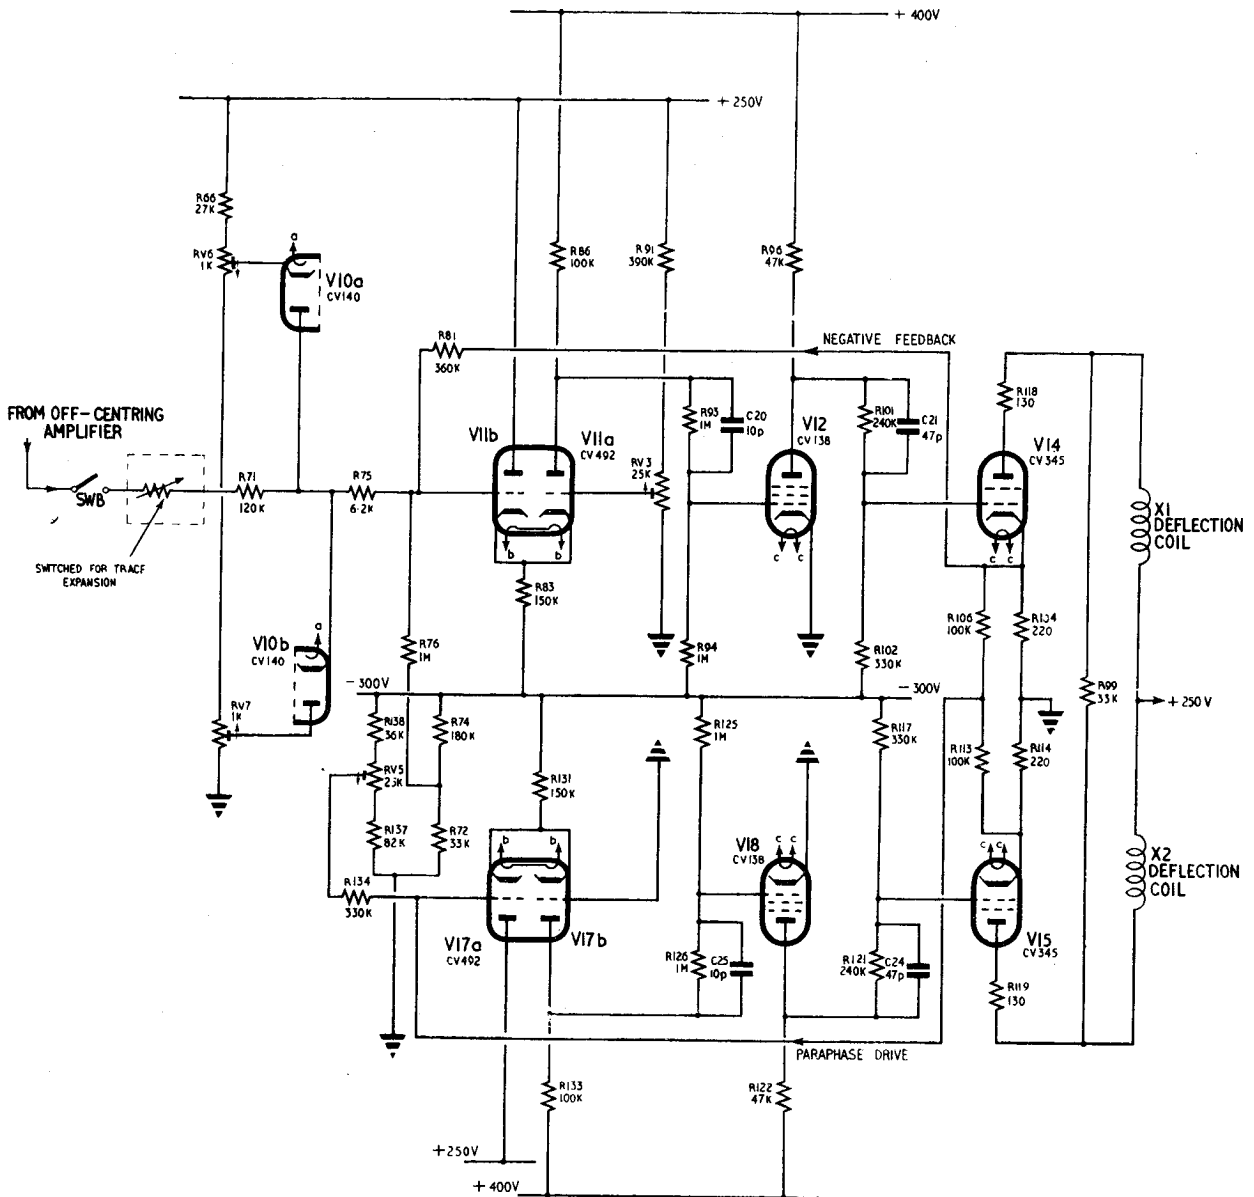

Fig. 11. Trace expansion amplifier (simplified)
27. The valves which actually drive the X deflector coils are V14 and its paraphase valve V15, both beam tetrodes CV345. The drive for V14 is obtained from the off-centring amplifier via the amplifiers V11 and V12, and for the paraphase tetrode from V14 cathode circuit via the amplifiers V17 and V18. A simplified circuit diagram of the arrangement is shown in fig. 11.
39. As shown in simplified form in fig. 11, the circuits ensure accurate reproduction of a linear input sawtooth at the tetrode cathodes, but this does not necessarily ensure an accurate current sawtooth in the coils. In fact, due to the presence of the damping resistor across both coils, and due to the stray capacitances all along the V11B input resistor chain R62 to R75 (relay contacts, diodes etc.), there is a tendency to a slow start on the current sawtooth. If uncorrected this non-linearity near the trace origin would result in misleading superposition of trace and strobe markers there, and would cause range rings to appear too crowded together near the start. Pre-correction is therefore applied by the capacitors C13 to C16 across the series resistors in the input arm.